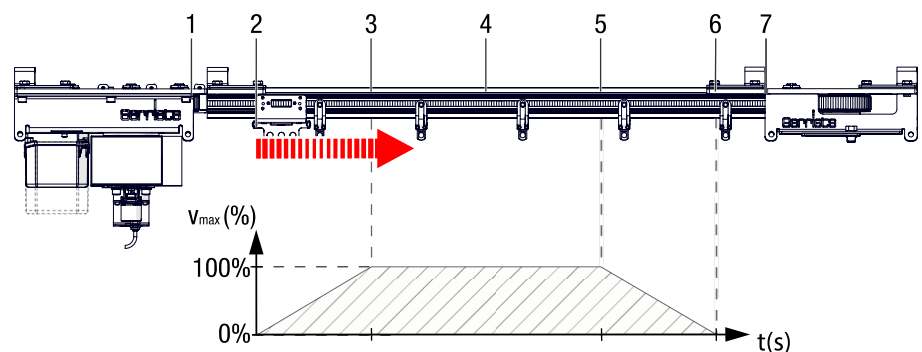

Fig. 22: Track system BELT-TRACK – Limit switches
- Operating end positions: **2**/Fig. 22 (closed) and **6**/Fig. 22 (open)
- Emergency end positions: **1**/Fig. 22 (closed) and **7**/Fig. 22 (open)
For drives with higher speed, such as the BT-L, a geared limit switch with 6 contacts can be used. This additionally enables the setting of pre-end positions (**3**/Fig. 22 – closed or **5**/Fig. 22 – open).
These pre-end positions enable ramp operation, in which the speed is reduced before reaching the operating end position (see diagram Fig. 22 below). This allows the drive to stop more gently and in a material-friendly manner. The ramp can be adjusted individually according to requirements.
In addition, intermediate positions can be controlled via encoder units (**4**/Fig. 22).